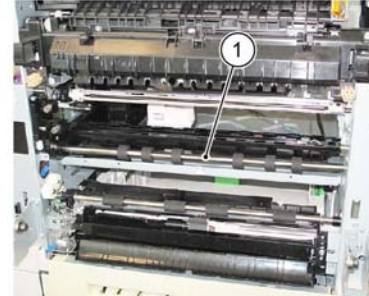

Figure 4 Registration roll removal
11. Remove the registration roll, Figure 4.